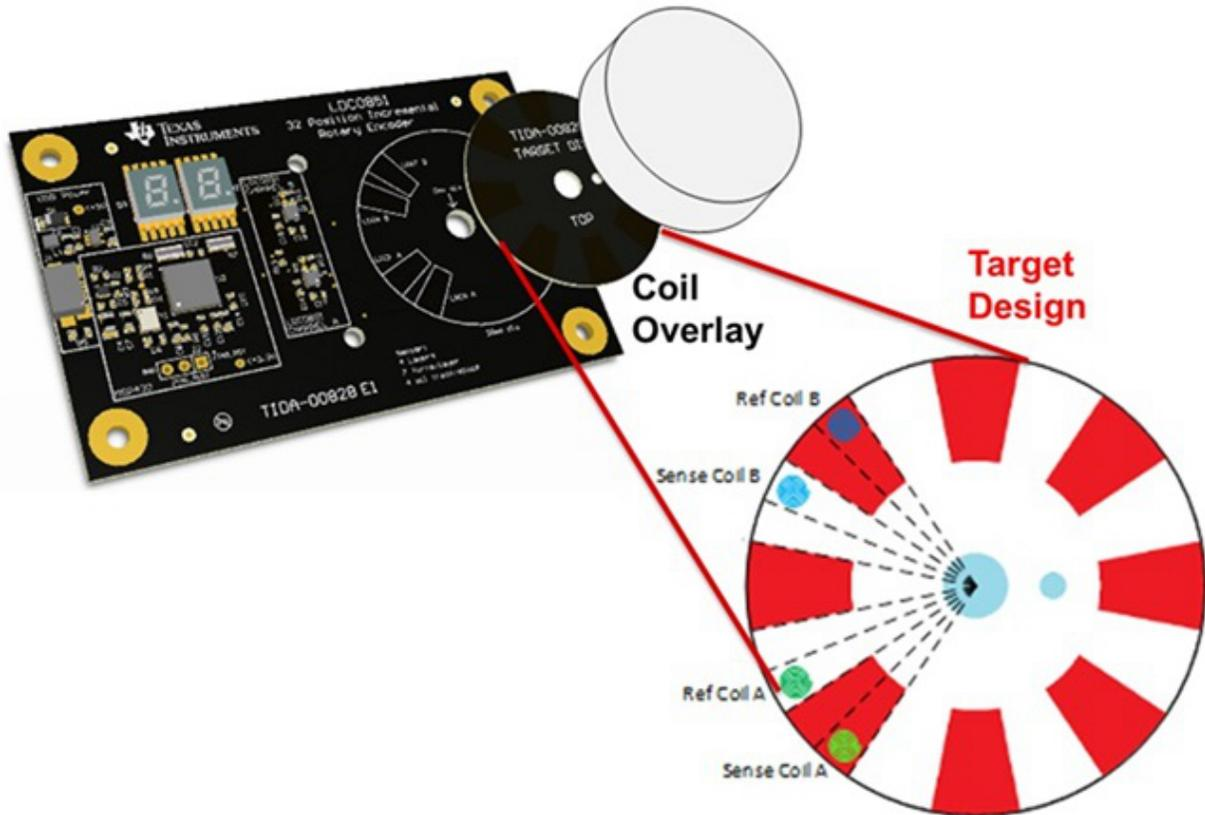

Figure 4. LDC0851-Based Encoder-knob Reference Design
- Event-counting applications that need to work well in dirty and harsh environments, such as flow meters, gear speed measurement devices and rotary encoders benefit from robust nature of inductive switching. The TI Designs Inductive Sensing 32-Position Encoder Knob Reference Design Using the LDC0851 shown in Figure 4 implements a 32-position encoder knob commonly found in automotive infotainment or appliance interfaces such as cooktops and volume knobs.